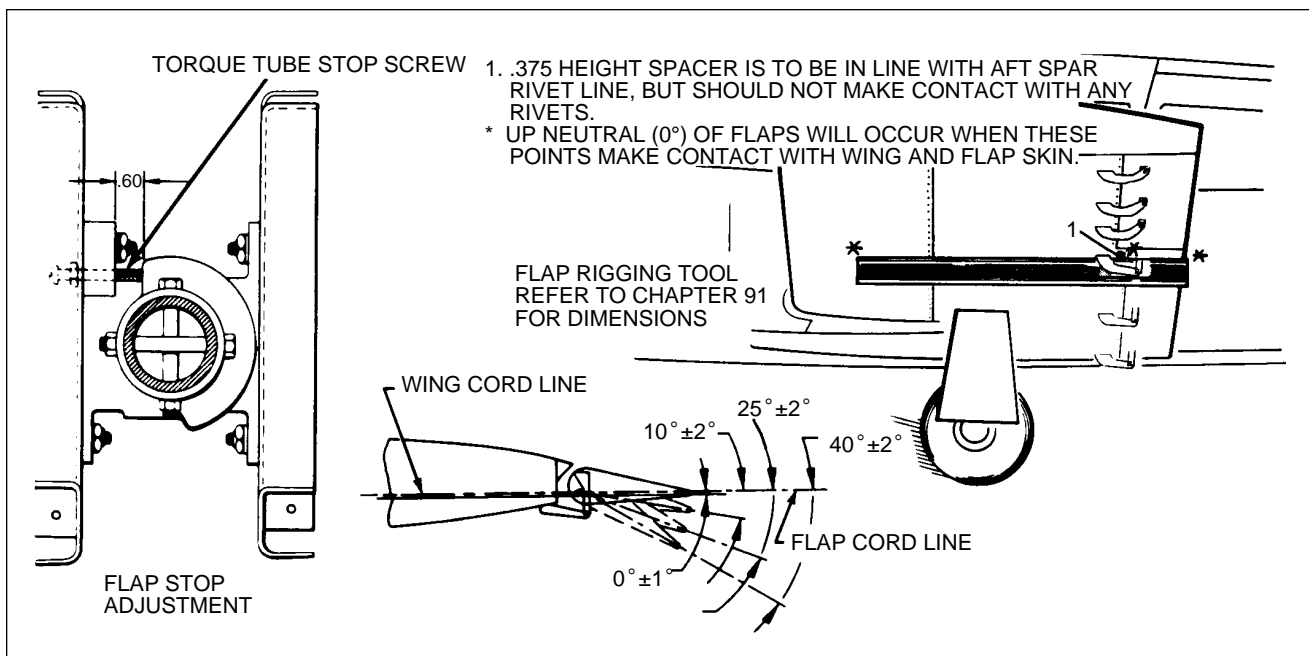

Figure 27-21. Rigging of Manual Flap Controls
RIGGING AND ADJUSTMENT OF MANUALLY OPERATED FLAPS (Refer to Figure 27-21.)
8. To check up-neutral position of the flaps, place a flap rigging tool as shown in Figure 27-21 against the underside of the wing and flap as close as possible to the outboard end of the flap without contacting any rivets. The tool must be positioned parallel with the wing ribs with the aft end of the tool even with the trailing edge of the flap. (This tool may be fabricated from dimensions given in Chapter 91.)
12. Check the flap for full down travel to the degrees required in Figure 27-21. Should the travel not be as that required, readjust the torque tube stop screw in or out as required. After readjusting the screw, it will be necessary to review Steps 4 thru 11.